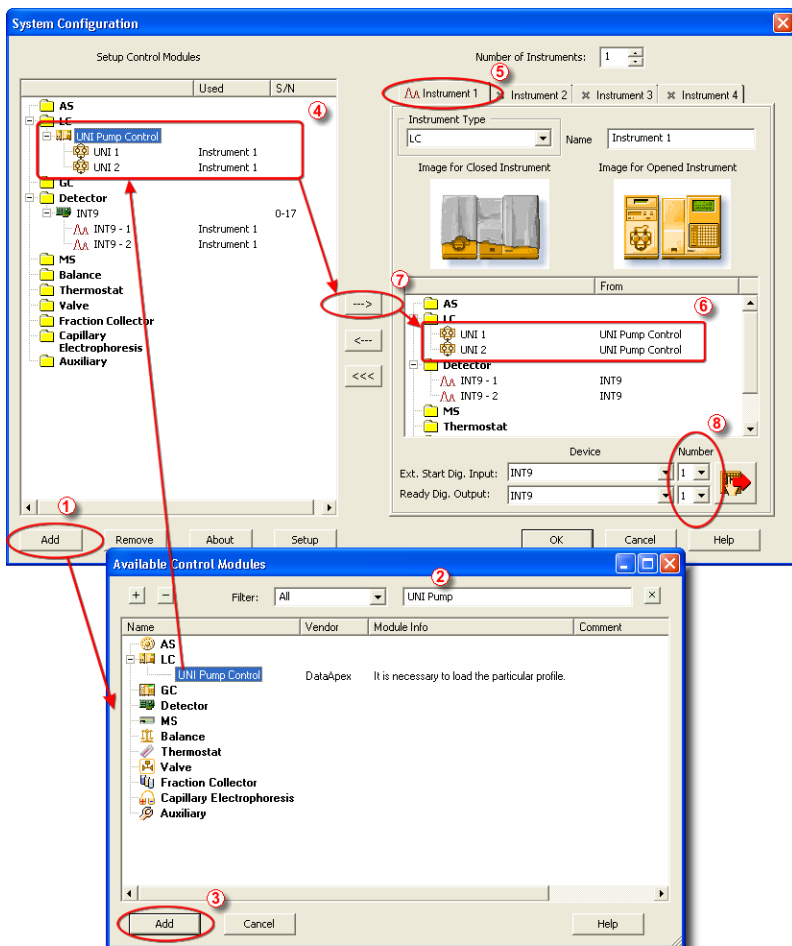

Fig 2: How to add Knauer pumps
- Press the **Add** button ① (see **Fig 2** on pg 5.) to invoke the **Available Control Modules** dialog.
- You can specify the searching filter ② to simplify the finding of the driver.
- Select the **UNI Pump Control** item and press the **Add** ③ button.